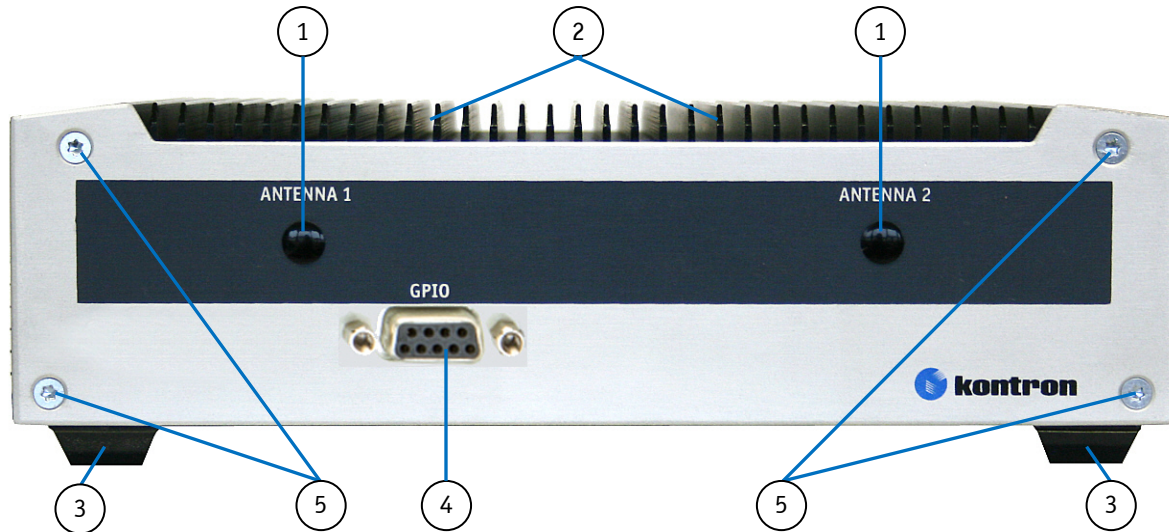
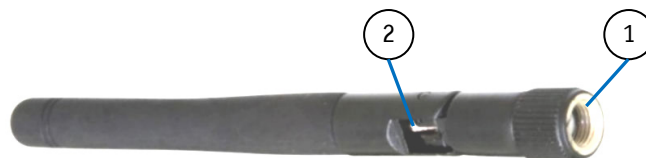

Fig. 14: KBox A-101 rear view with optional GPIO interface
Fig. 15: WLAN (WiFi) antenna
Optionally, the KBox A-101 can be equipped with a GPIO (General Purpose Input/Output) interface. Peripheral devices can be controlled freely programmable via this interface (Fig. 14, pos. 4), which consists of a 9-pin D-SUB connector.
Depending on the ordered system configuration, the KBox A-101 can be equipped with WLAN (WiFi) hardware expansion (with two antennas). If you have ordered a system configuration including WLAN, at the rear side two Reverse (RP) SMA-connectors are installed (Fig. 14, pos. 1) for screwing on the provided WLAN antenna.
During the installation of the KBox A-101 the antennas (Fig. 15) will be screwed on to the RP SMA connector (Fig. 14, pos. 1). The antenna can be tilted and rotated in the appropriate position to get the optimal transmission and reception quality.